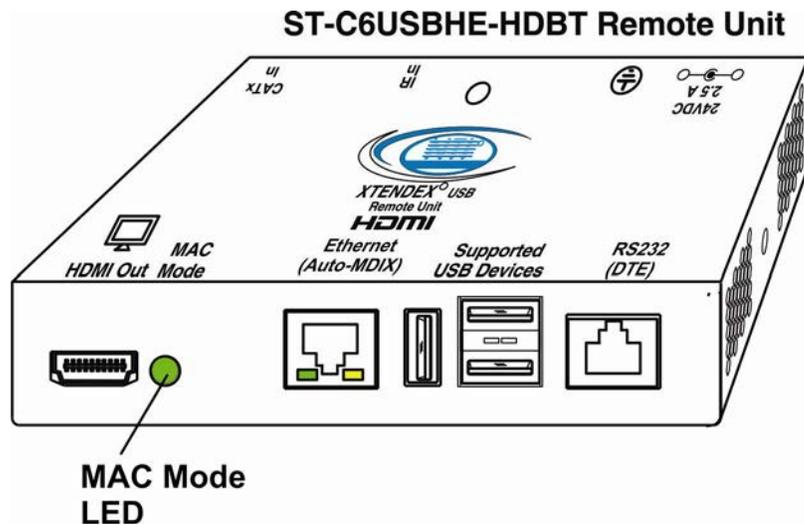

Figure 6- MAC Mode LED
2. If a MAC CPU is connected, press the <M> key. The keyboard LEDs will momentarily flash and the “MAC” LED on the Remote Unit will illuminate to indicate MAC Mode is ON. (See Figure 6)